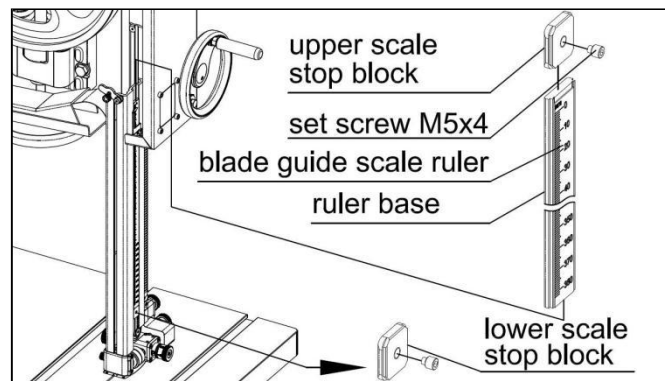

Fig. 8-13
1. As shown in Fig. 8-13, loosen the set screw on the upper scale stop block, then slide both the stop block and the scale base upward out of the T-slot of the upper blade guard. Align the height scale with the base, ensuring it is flush and centered in width before applying it.